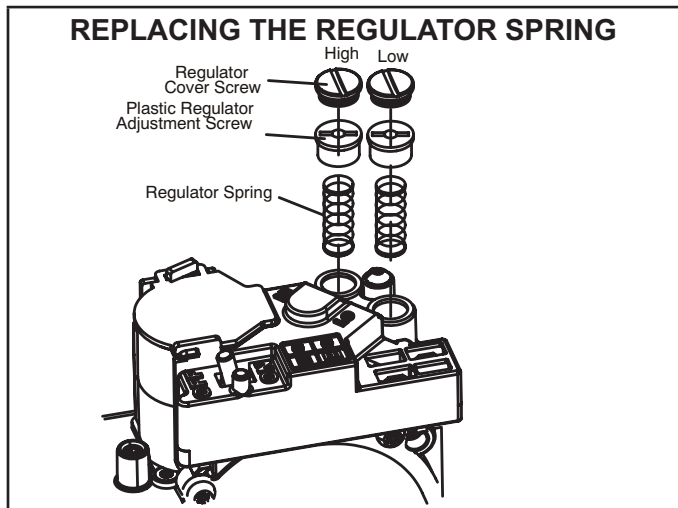

FIGURE 5
- a - Remove both high fire and low fire springs from the gas valve. See FIGURE 5.